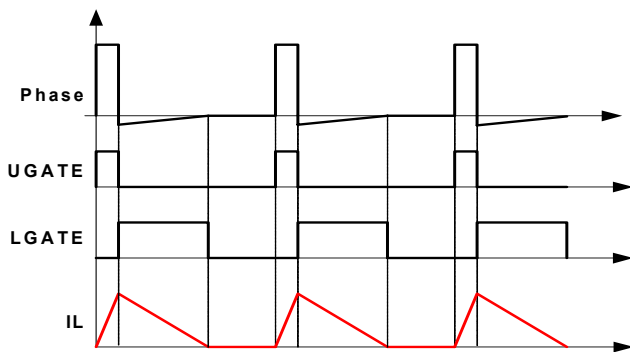

FIGURE 8. DIODE EMULATION
ISL62883C can operate in diode emulation (DE) mode to improve light load efficiency. In DE mode, the low-side MOSFET conducts when the current is flowing from source to drain and doesn't allow reverse current, emulating a diode. As Figure 8 shows, when LGATE is on, the low-side MOSFET carries current, creating negative voltage on the phase node due to the voltage drop across the ON-resistance. The ISL62883C monitors the current through monitoring the phase node voltage. It turns off LGATE when the phase node voltage reaches zero to prevent the inductor current from reversing the direction and creating unnecessary power loss.
If the load current is light enough, as Figure 8 shows, the inductor current will reach and stay at zero before the next phase node pulse, and the regulator is in discontinuous conduction mode (DCM). If the load current is heavy enough, the inductor current will never reach 0A, and the regulator is in CCM although the controller is in DE mode.